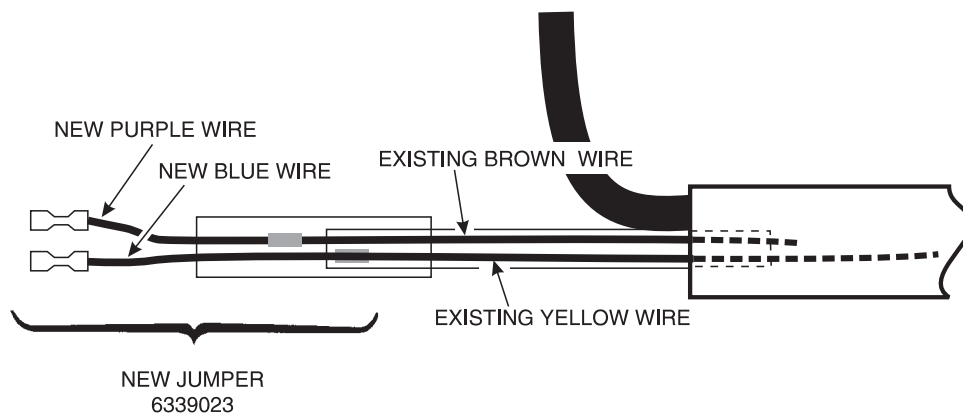

Figure 2
5. See figure 2. Splice the new jumper (part number 6339023) to the brown and yellow wires as shown, using a quality splice crimper such as the AMP "Super Champ III". **It is very important that good splice connections are made.**